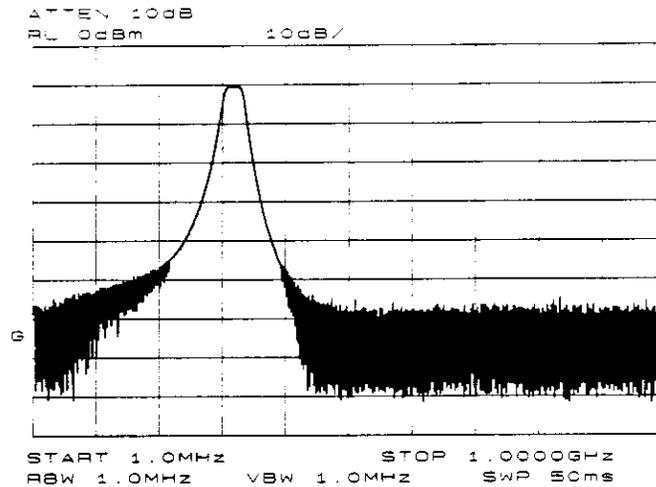

Figure 3-19. Adjust spectrum analyzer settings according to the measurement requirement.
- Since we are only interested in the rejection of the bandpass filter, tune the spectrum analyzer's center frequency so that the rolloff of the filter comprises the majority of the trace on the display (see Figure 3-19).